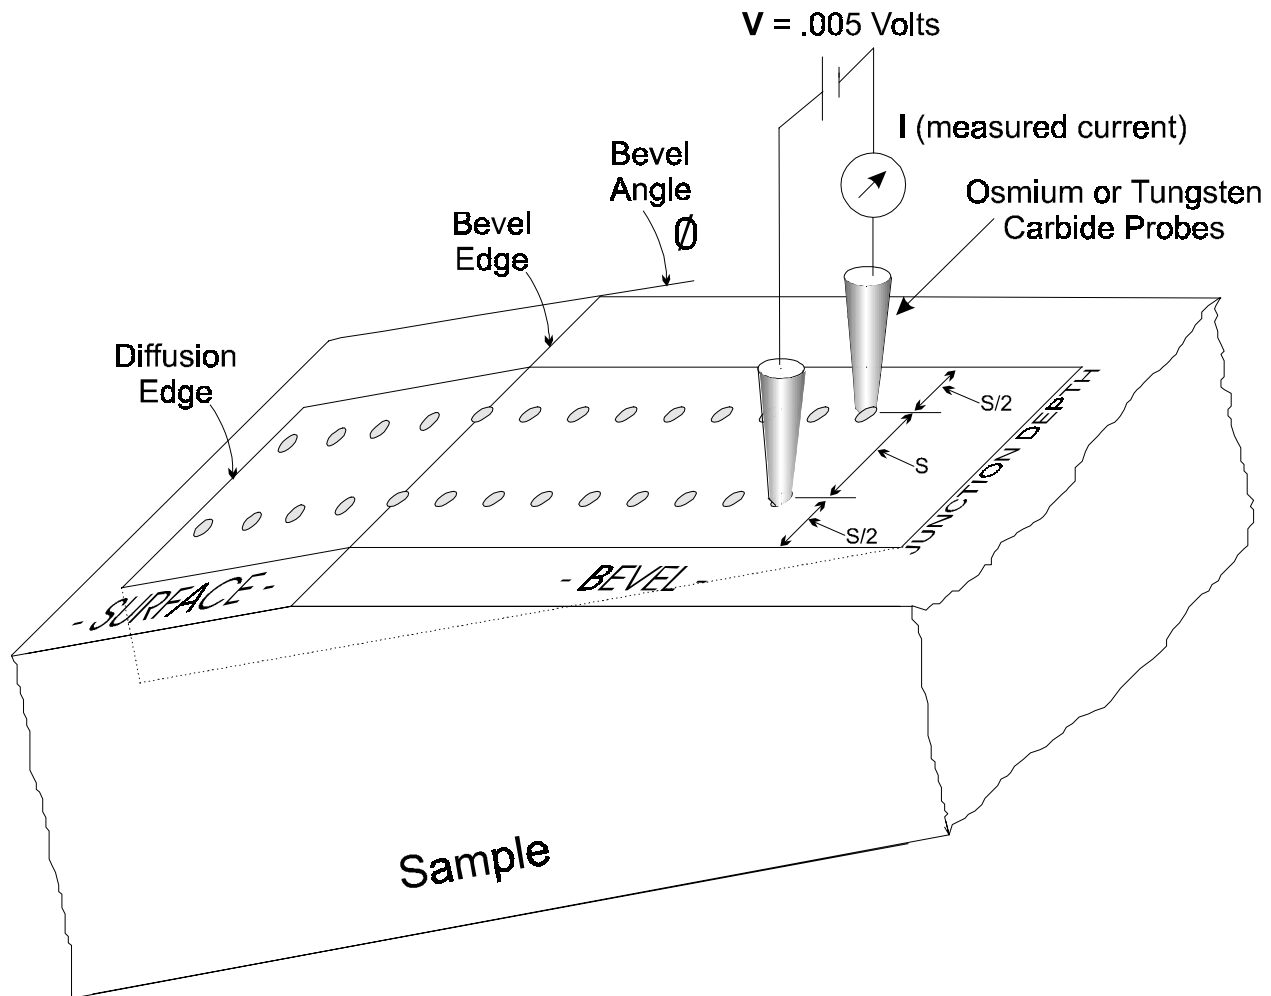

Figure 1
A) At the very minimum both probes need to be within the pattern. With judicious shaping of the probe tips, you can get the minimum spacing down to about 20 microns. With much effort, the separation can be made smaller, but it drastically reduces the life expectancy of the probe tips and thus compromises the reliability of the measurements. Good form suggests that minimum distance from the probe to the edge of the structure should be about half the probe separation to avoid distorting the current lines. (Fig. 1) If probe separation is 20 microns, and half that width is added to each side, we now have a width of 40 microns. Add another 10 microns for slop and the desired pattern width is 50 microns.